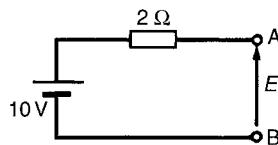

Figure 13.28
- (i) The open-circuit voltage, E , across terminals AB in Fig. 13.28 is equal to 10 V, since no current flows through the 2Ω resistor and hence no voltage drop occurs.